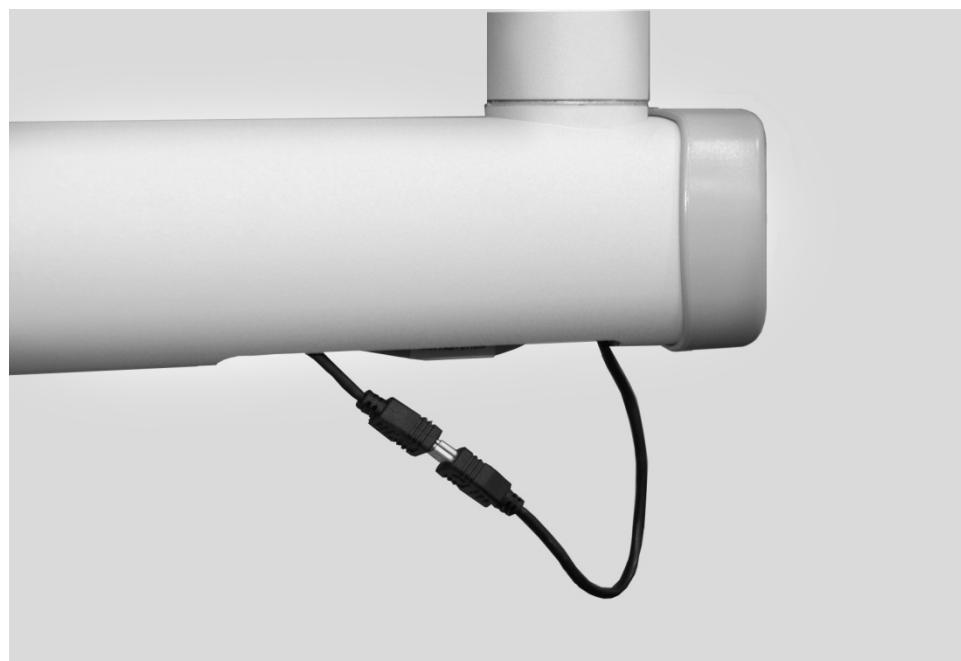

Figure 24
1. Connect the two Articulating Arm cables to the Horizontal Arm cables, as shown in *Figure 23* and *Figure 24*.